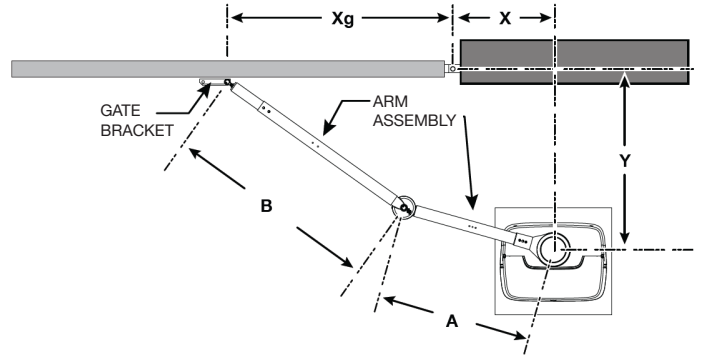

Figure 11. Installation Dimensions
4. Use Tables 1 through 4 to determine the length of the operator arm (A) and the gate arm (B) (Figure 11).
12. Make sure that the operator arm is below the gate arm (Section B above Section A, Figure 11).
Top cap installation requires 6 in (15 cm) of exposed length of the small A arm (Figure 11).